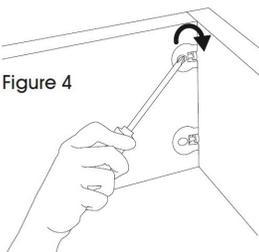

Figure 4
- Connect the camlocks and pins by inserting the screwdriver into the top hole of the camlock and turning clockwise. (See Figure 4)